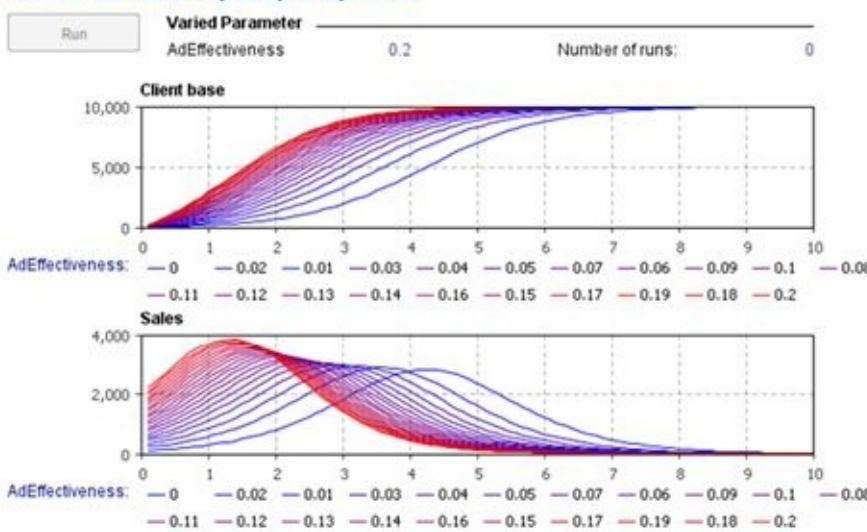

Figure 5.26 Sensitivity analysis experiment
For the next two examples we will use another model – a classic epidemic model *SIR*, or Susceptible Infectious Recovered ("Compartmental models in epidemiology". n.d.), see Figure 5.26. We are modeling a spread of contagious disease in a population where everybody is susceptible and, having been infected, can transmit the disease to other individuals. The disease has a finite duration and, after recovering, an individual becomes immune. The model has two parameters we will focus on:
The historical data is shown in Figure 5.26 as the number of infected people over time in a population of a thousand people. To calibrate the model, we will use the OptQuest optimizer built into AnyLogic, which will iteratively run the model, compare its output with the historical curve, change the parameter values, perform another run, etc., until it decides it has done its best (or the iteration limit is reached).
1. Create the SIR model, as shown in Figure 5.26. Use some values for *Infectivity* and *AverageIllnessDuration*, say 0.08 and 12.